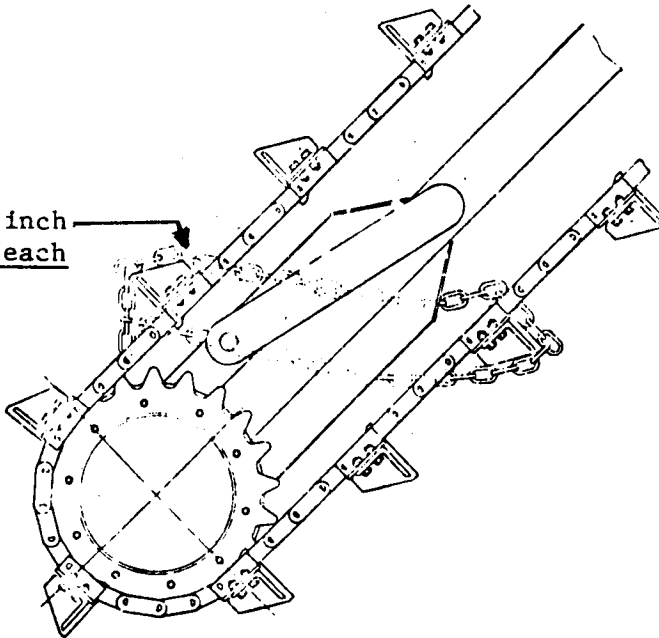

FIGURE 2
2. Place two one-half inch chains fastened around opposing drags, as shown in Figure 2, and located one on each side just clearing the tubing on the inside of the elevator frame. This will allow the elevator to be stalled in either direction without damaging the frame, axle, or drags.
2. Place two one-half inch chains fastened around opposing drags, as shown in Figure 2 (Page 22) and located one on each side just clearing the tubing on the inside of the elevator frame. This will allow the elevator to be stalled in either direction without damaging the frame, axle, or drags.